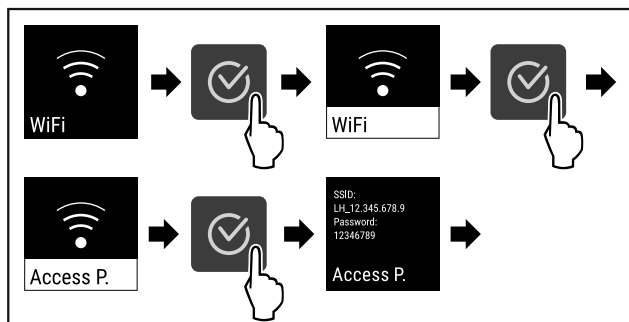

Fig. 85
- Complete the steps (see Fig. 85).